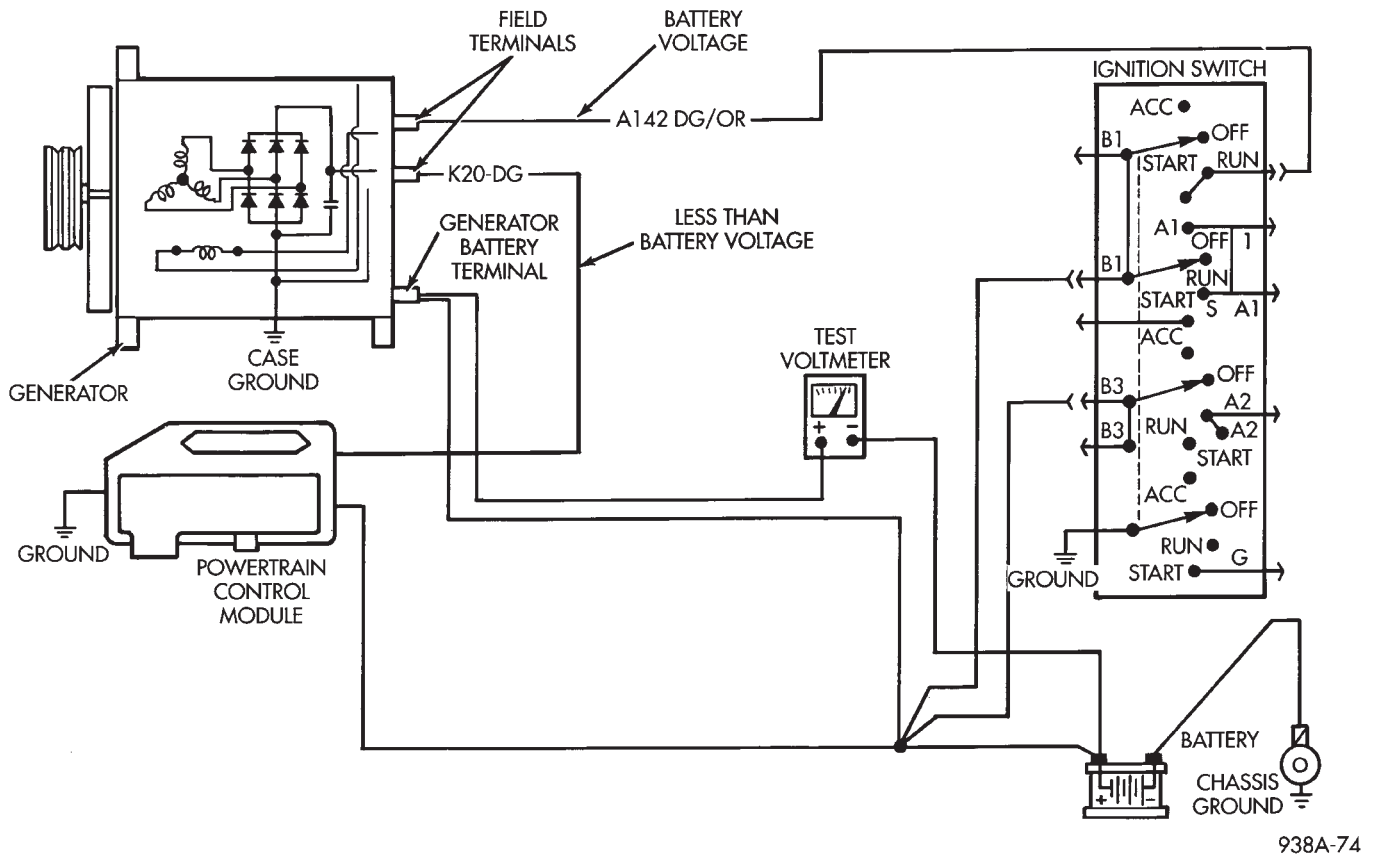

**Fig. 3 Output Voltage Test**
(1) Connect voltmeter leads across battery terminals (Fig. 3).
(2) Record base battery voltage which is with ignition switch OFF and all electrical loads OFF.
(3) Fully engage parking brake and place transmission in park.